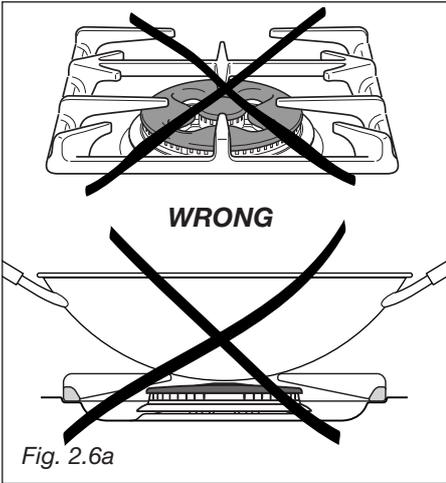

Fig. 2.6a
**CORRECT USE OF DUAL BURNER** (Fig. 2.6a - 2.6b)
When using a WOK you need to place the supplied stand in the burner to avoid any faulty operation of the dual burner (Figs. 2.6a - 2.6b).